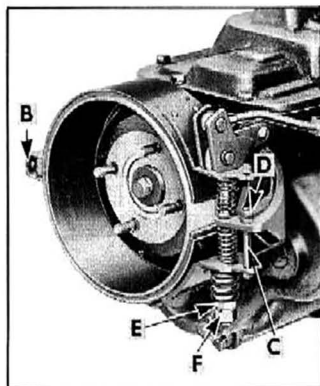

Fig. 56—Propeller Shaft Brake—1 Ton
1. Set hand brake lever in fully released position, then turn up anchor screw "B" (fig. 56) until there is .010"-.015" clearance between lining and drum.